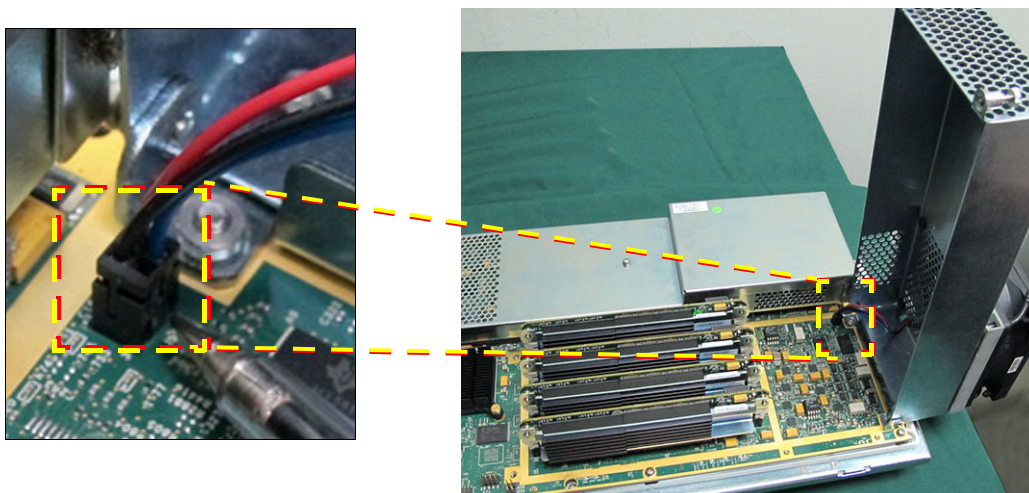

Figure 8-188 TRX32 Box Fan Cable Connected to CFE Board
- 4.) Disconnect the fan cable from the CFE Board - Figure 8-188.